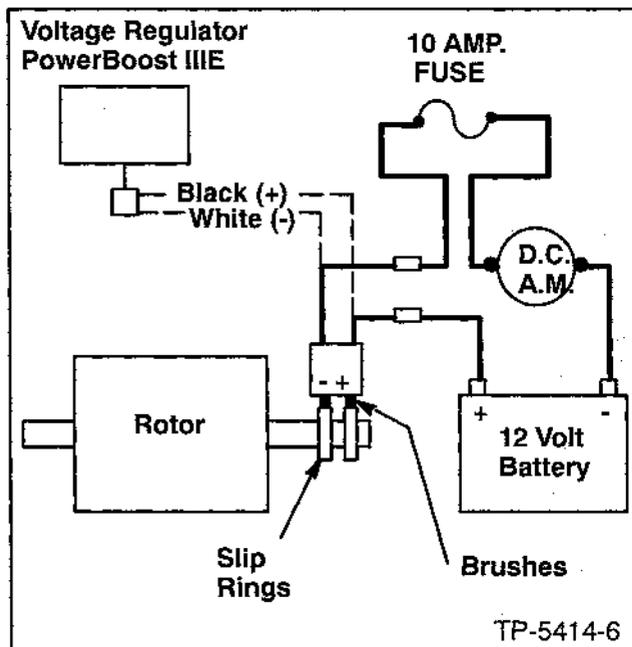

Figure 7-2. Separate Excitation Connections (PowerBoost III E).
2. Connect an ammeter and a 12-volt automotive battery to the positive (+) and negative (-) brush leads. Include a 10-amp. fuse to protect the circuit in case of a shorted rotor. Refer to Figure 7-2. Note and record the ammeter reading.